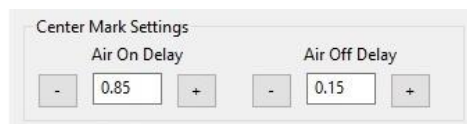

Fig 92 Centre Mark Settings
3. For each of the conditions (paragraph 1.1 and 1.2) analyse the mark created. If the mark is too deep, reduce the delay value. If the mark is too shallow, increase the delay value. The values can be increased or decreased using the + or – buttons within the settings window (Fig 92).